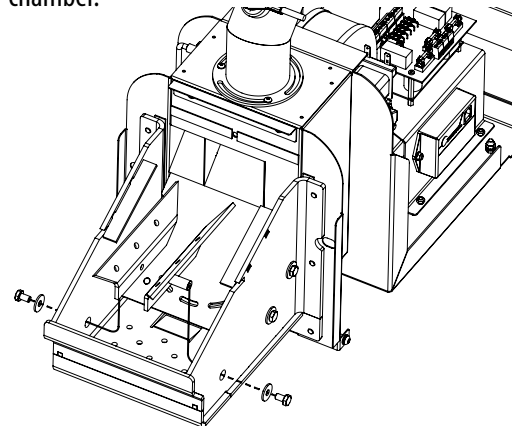

Fig. 20 Removing the guiding plates from the chamber.
2. Unscrew two bolts on the burning chamber lateral walls. Then, remove the guiding plates from inside the burning chamber (Fig. 20);